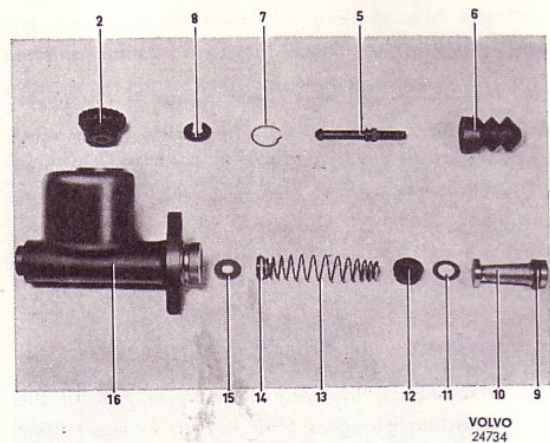

Fig. 27. Master cylinder.
2. Pull back the rubber cover (6) and remove the circlip (7), washer (8) and thrust rod (5). Shake out all the parts from the cylinder, see Fig. 27.
1. Fit the washer (15, Fig. 27) in the bottom of the cylinder.